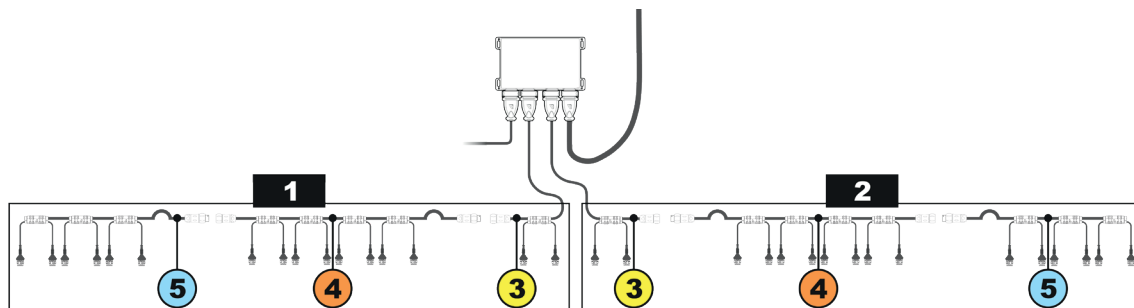

Fig. 14
**1** The Seletron units are connected to the ECU (Fig. 14) via two main wiring harnesses (**1** and **2**), each made up of three types of cables: head-end cable (**3**), extension cable (**4**) and termination cable (**5**); ; the termination cable is indispensable in order to close circuit. **The system will not operate without a termination cable.**